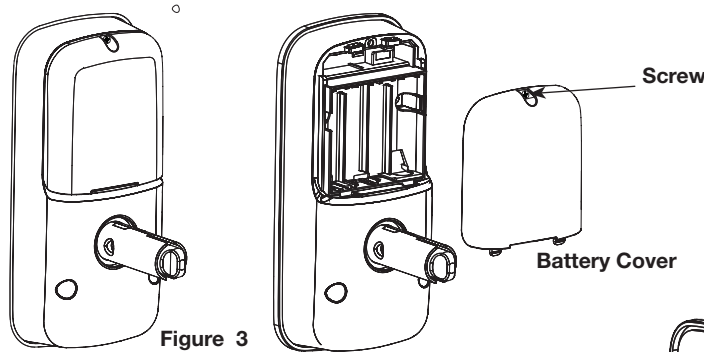

Figure 3
- Remove the battery cover from the back of the inside escutcheon (Fig. 3) by loosening the captive Phillips head screw.